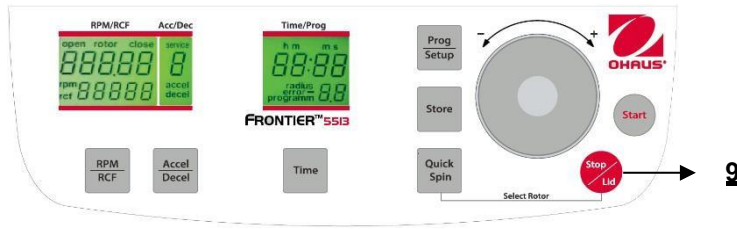

Figure. 24
By the **"Stop/Lid"** key (9) (see figure 24) you can interrupt the run at any time. After pressing the key, the centrifuge decelerates with the respective pre-selected intensity down to stand still. After the rotor complete stopped, press the "Stop/Lid" key will open the lid.